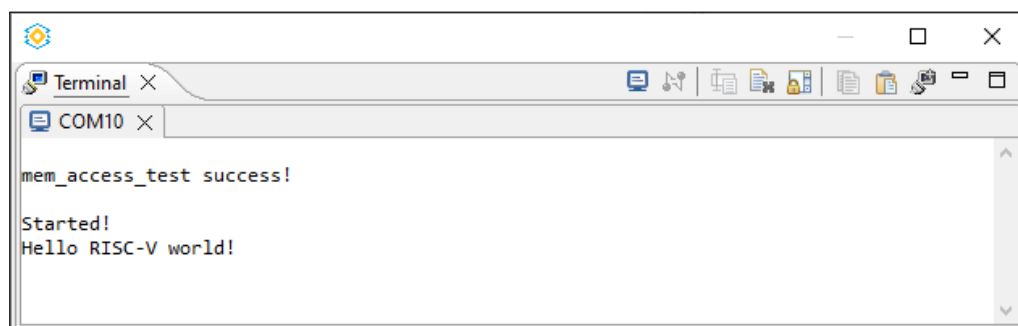
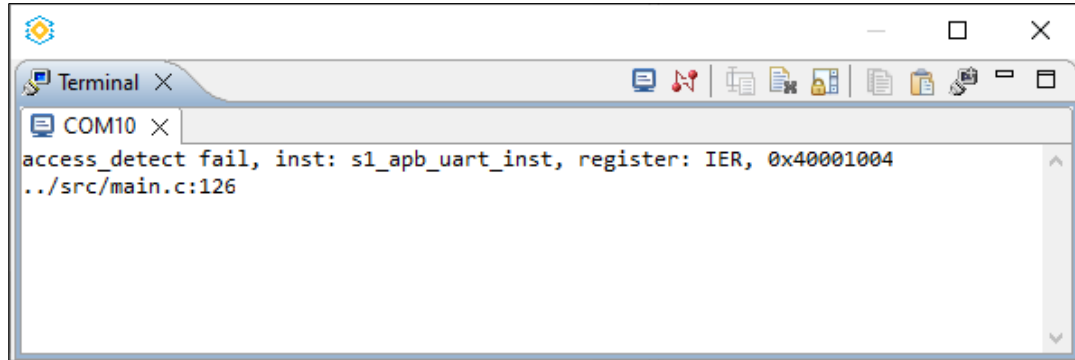

Figure F.5. Success Log
Figure F.6. Failure Log
4. Success log (Figure F.5) or failure log (Figure F.6) is shown.